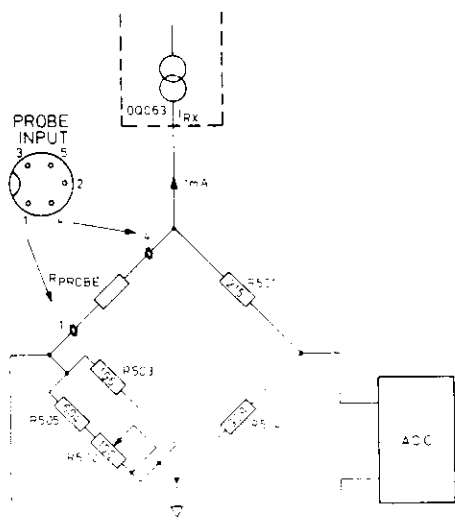

Fig. 19.
- The temperature measuring circuit is drawn in figure 19,